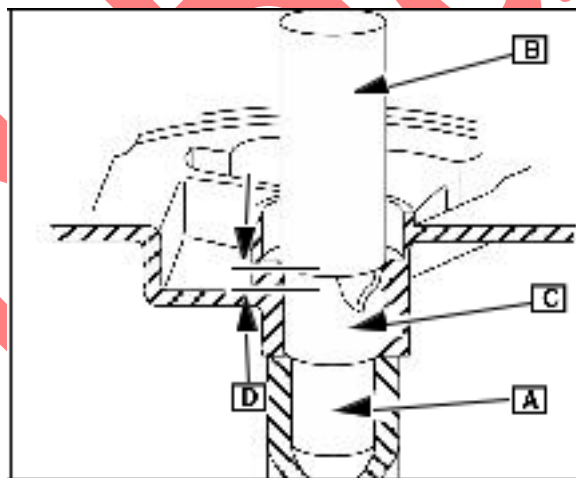

Fig. 31
Use cylinder support (#19227) (A) and bushing driver (#19226) (B) to press the new bearing ([C] Fig. 31) to 7/64" (2.78 (D) from seal surface on magneto side.